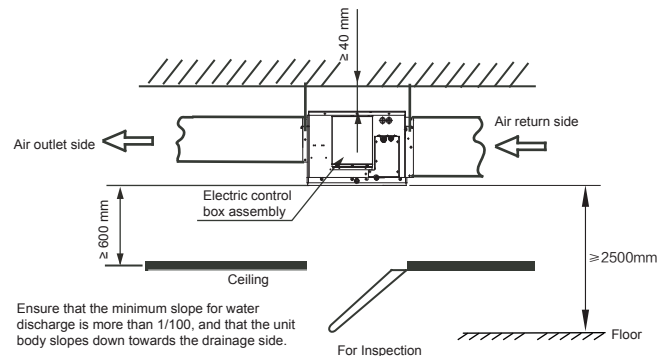
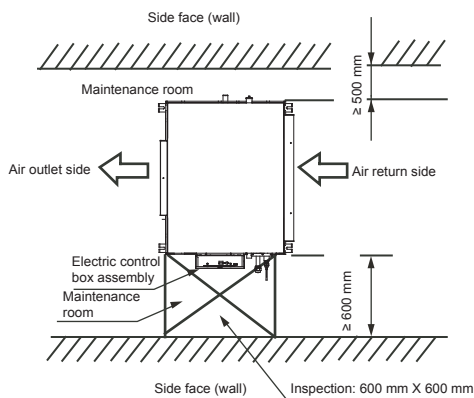

Figure 2.2
Figure 2.1
**2.3 The space required for installation (unit: mm) is shown in Figure 2.1 and Figure 2.2:**